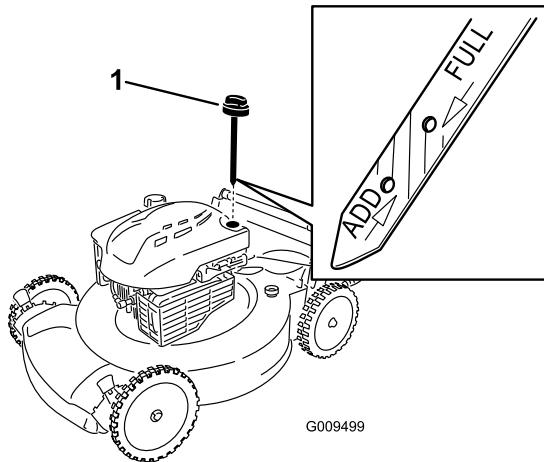

Figure 26
2. Remove the dipstick (Figure 26).